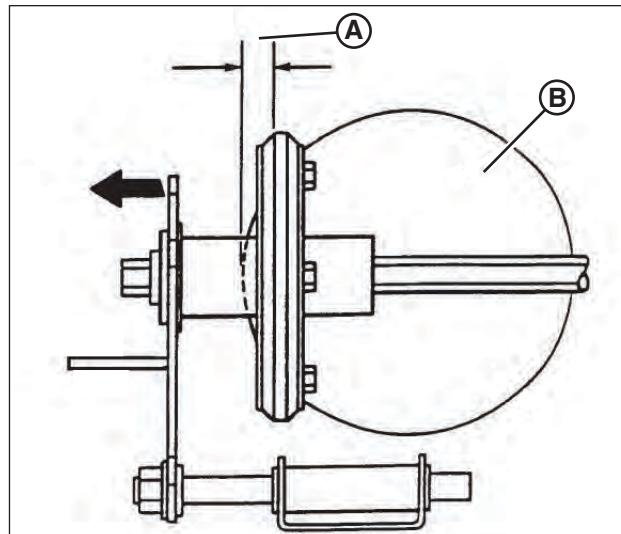

Figure 28: Proper driven disc adjustment
3. Slide the driven disc assembly over to 1/8" (**A**, **Figure 28**) from the outside edge of the drive disc (**B**).